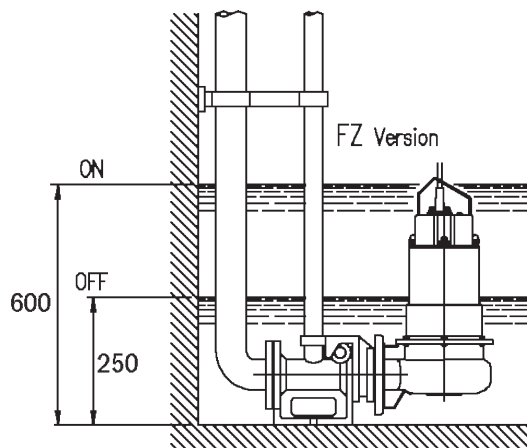

FIG. 8 • OPTIMA - BEST ONE - BEST ONE VOX
7.1. ELEKTROPOMPA OPTIMA-BEST ONE-ONE VOX (RYS. 8)